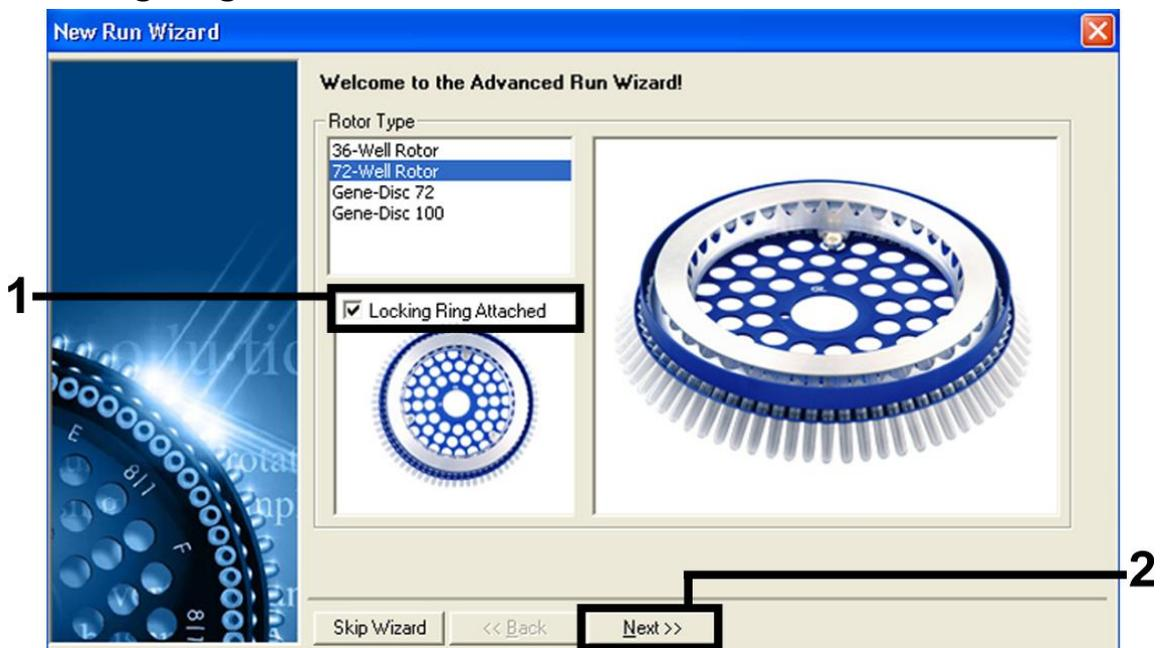

Figure 1. The “New Run Wizard” dialog box.
| Setting the general assay parameters           | Figures 1, 2, 3 |
6. First, open the “New Run Wizard” dialog box (Figure 1). Check the “Locking Ring Attached” box and click “Next”.